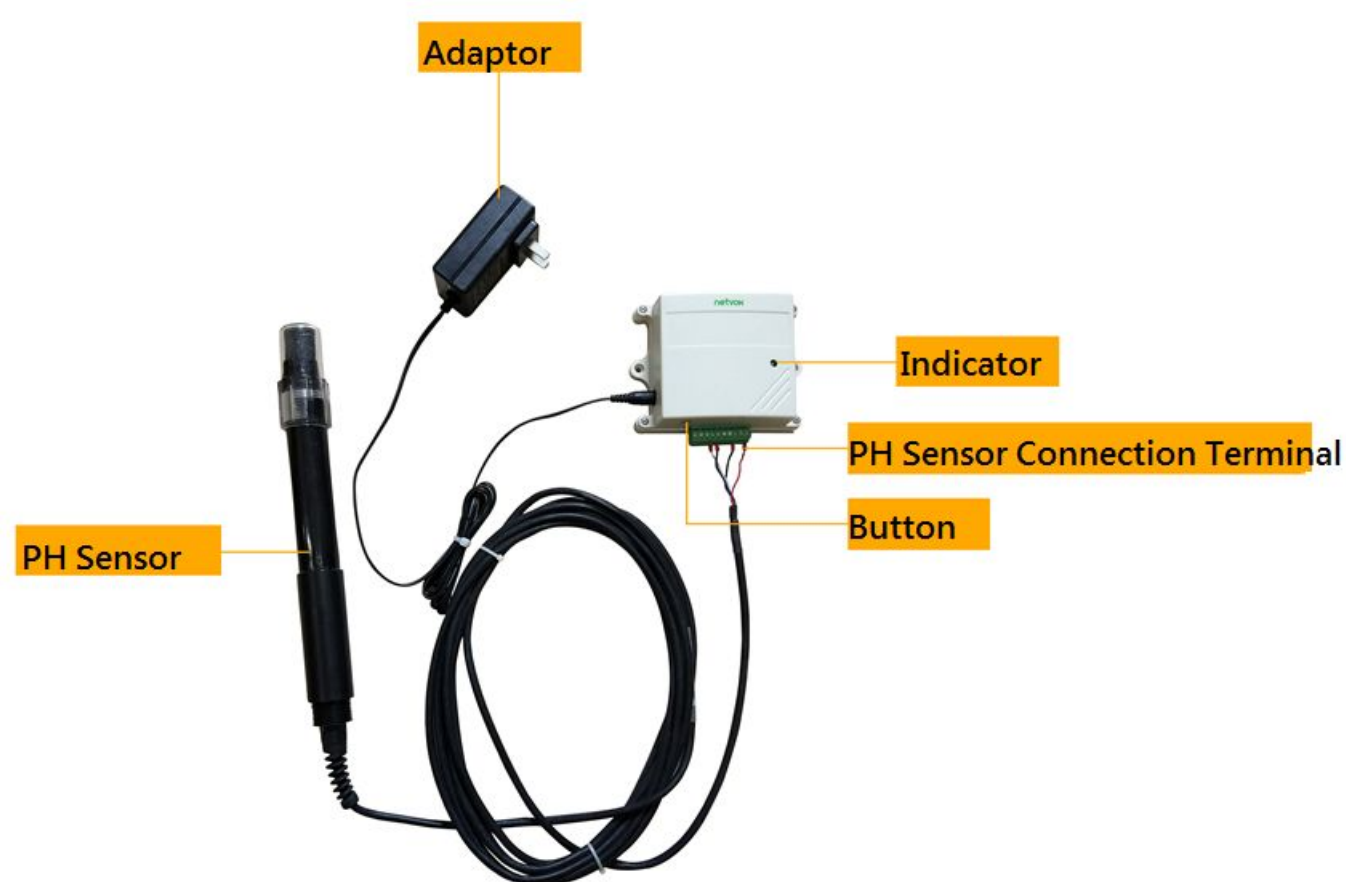

Figure 1. RA0708 external PH value Sensor (subject to the actual object)
1. User removes the four screws of the battery holder. (Fig.1)